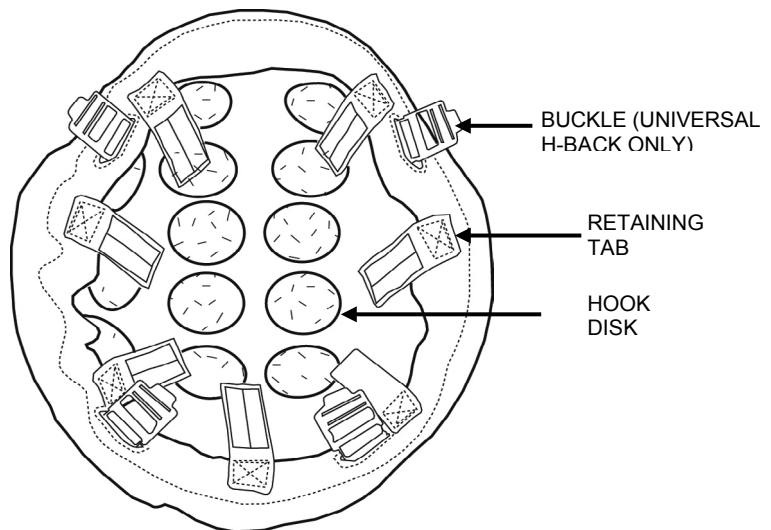

Figure 5. Helmet Cover Installed.
3. Pull the cover retaining tabs down and attach tabs to hook disks inside helmet shell, as shown in Figure 5.